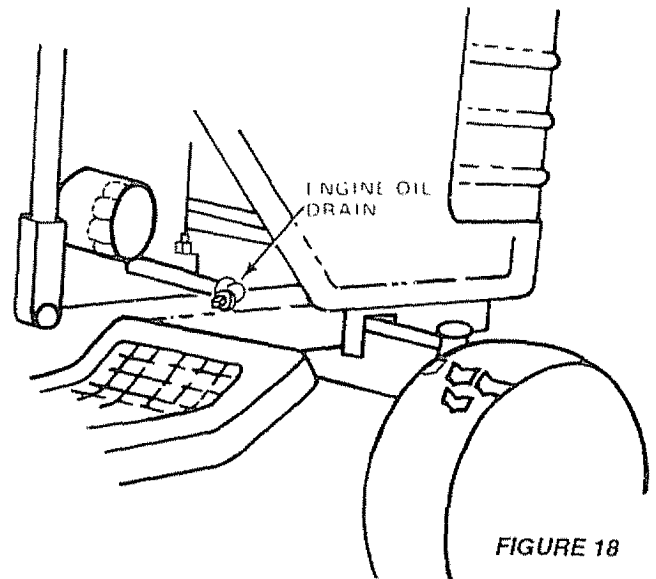
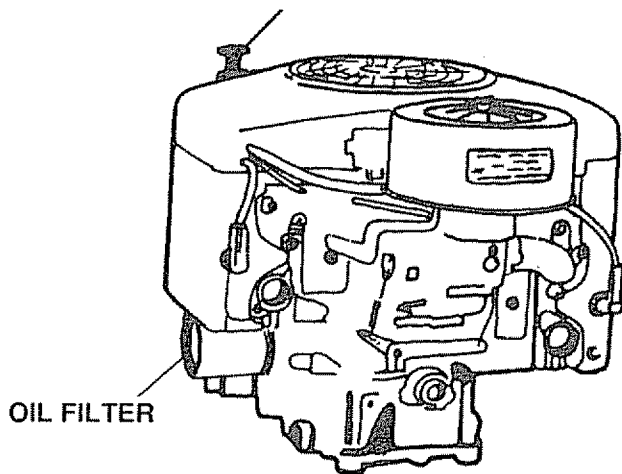

FIGURE 18
FIGURE 19
- b. Loosen oil drain plug (Fig. 18) and remove dipstick (Fig. 19).
- f. Replace dipstick (Fig. 19) then remove dipstick and read oil level. Make sure oil level is at the "FULL" mark on dipstick. Add or remove oil as indicated on dipstick.
Several minutes after stopping engine, check engine oil level with tractor on level ground. Wipe dipstick (Fig. 19) clean, screw it down tight for a few seconds, remove and read oil level. If necessary, add oil until "FULL" mark is reached (See chart above) NOTE: DO NOT OVERFILL
- Drain crankcase of oil (refer to "CHANGE ENGINE OIL," page 15, through step d). Remove old filter (Fig. 19) by turning counterclockwise.